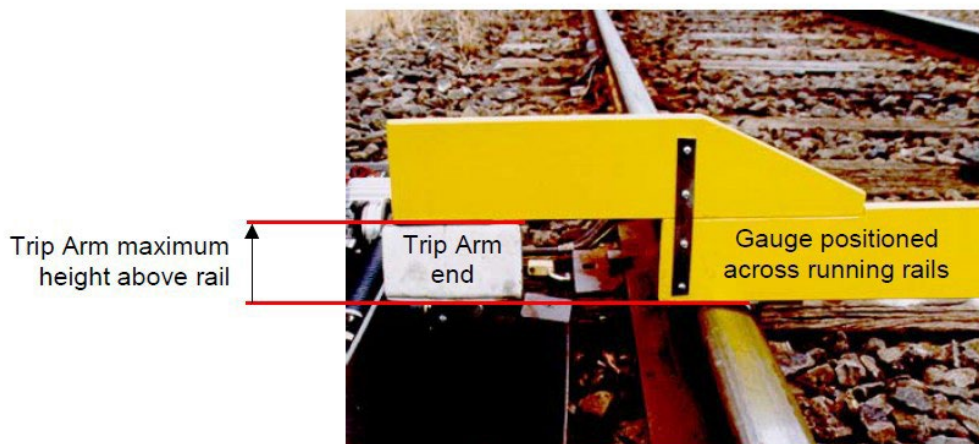

Figure 2 – Height of Trip Arm Checked with Gauge
1.2 Using the Trip Arm Gauge, check the height of the top of the raised Trip Arm is 76 mm +/- 3 mm above a line joining the tops of the running rails (see Figure 2).